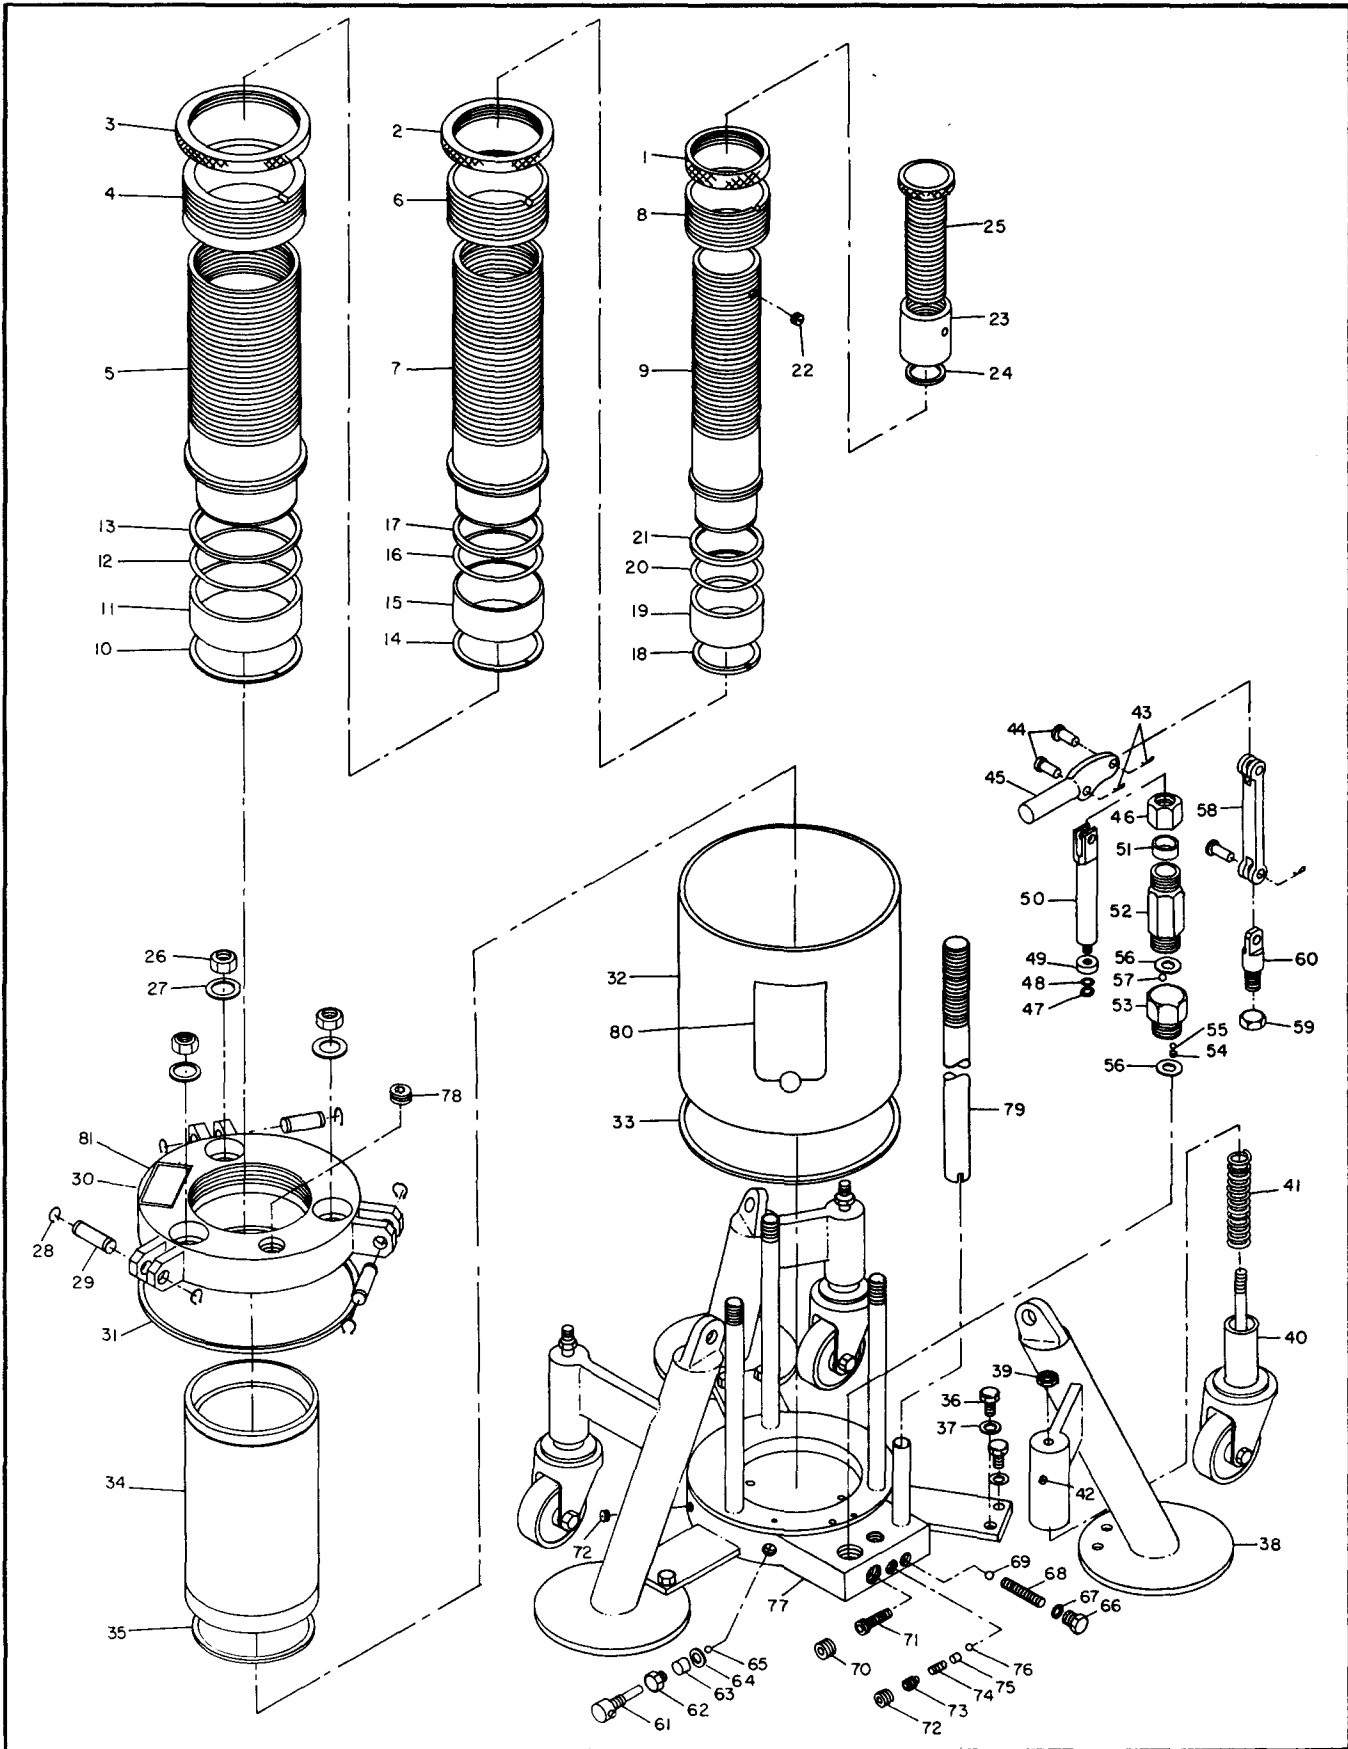

Figure 5-1. 12 Ton Hydro-Mechanical Aviation Jack
e. Functionally check ram locking nuts Figure 5-1, Indexes 3, 2, and 1 for removal by hand. If nut can be removed by hand extend ram and screw lock nuts down to gain access to ram top threads. Peen top ram threads such that lock nuts cannot be removed by hand.
4-11. Disassemble and reassemble the jack in the order of key index numbers assigned to the exploded view illustration Figure 5-1. The following instructions cover those points that are not apparent.
a. To disassemble the hydraulic cylinder assembly plungers, (5, 7 and 9, Figure 5-1) remove plug (70) and screen (71) from base (77) and drain oil from the reservoir. Then remove locknuts (1, 2 and 3), unscrew stop ring (4) from tripod head (30). After stop ring has been removed extend extension screw (25) and pull up. The plungers will rise out of cylinder (34). It is not necessary to remove stop rings (6 or 8) to pull plunger assembly. After plungers have been removed push plunger (9) from top thru plunger (7) and plunger (7) from top thru plunger (5).
c. Should replacement of bearings, "O" rings or Teflon back-up rings be required, remove retaining rings (10, 14 or 18) and bearings, "O" rings and Teflon back-up rings can be removed from plunger ends. Replace in reverse order as shown in Figure 5-1.
d. Extension screw (25) does not have to be removed unless it is damaged. There is an "O" ring (35) between cylinder (34) and base (77) and unless cylinder has to be replaced do not remove.
e. Should cylinder (34) have to be removed for replacement or for replacement of "O" ring (35) perform the following. After removal of plunger assembly remove retaining rings (28) and tripod head pins (29). Unscrew nuts (26) and remove washer seals (27). Lift tripod head (30) from top of reservoir (32) and remove cylinder (34) from base (77).
f. To reassemble the plungers (5, 7 and 9) within the cylinder (34) with all Teflon back-up rings, "O" rings and bearings on bottom of plungers secured by retaining rings, insert the inner plunger into the center plunger and these two plungers into the outer plunger. Replace locknuts (1, 2 and 3) on plunger threads. Lift complete assembly into cylinder (34) and push to jack base. Thread in stop ring (4) and fill jack with oil through tripod oil port.
d. Weld a 1 inch pipe brace NSN 4710-00-202-8207 approximately 6 inches long across the bend in the pump handle. Clean all depainted areas and repaint in accordance with T.O. 35-1-3 (Ref Fig 5-1).